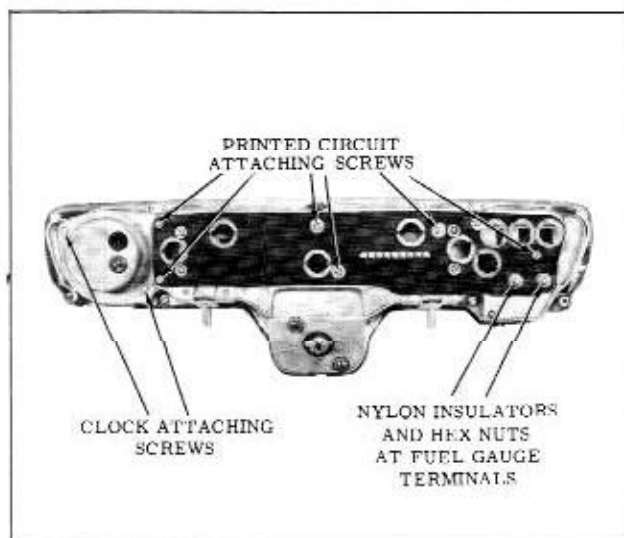

Fig. 12-4 Printed Circuit Attachment
1. Remove all cluster lamp sockets, and five circuit attaching screws. (Fig. 12-4)